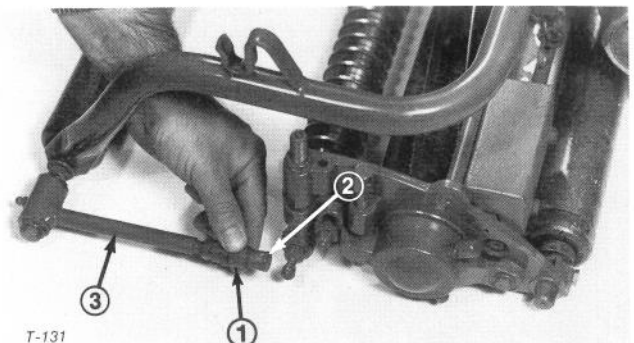

Figure 13
1. Loosen jam nut securing ball sockets to pull arms on both side of the yoke (Fig. 13).
3. Align cutting unit with roller and driveshaft with transmission shaft and lengthen or shorten pull rods by threading ball socket on rod (Fig. 13).